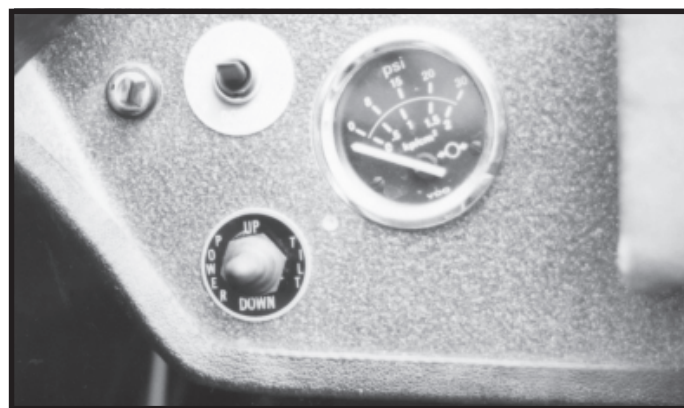

FIG. 20
Step 11: Push the toggle switch through the 1/2" hole that you previously drilled. Place the up-down switch plate and rubber boot with nut on the switch. (Fig. 20)